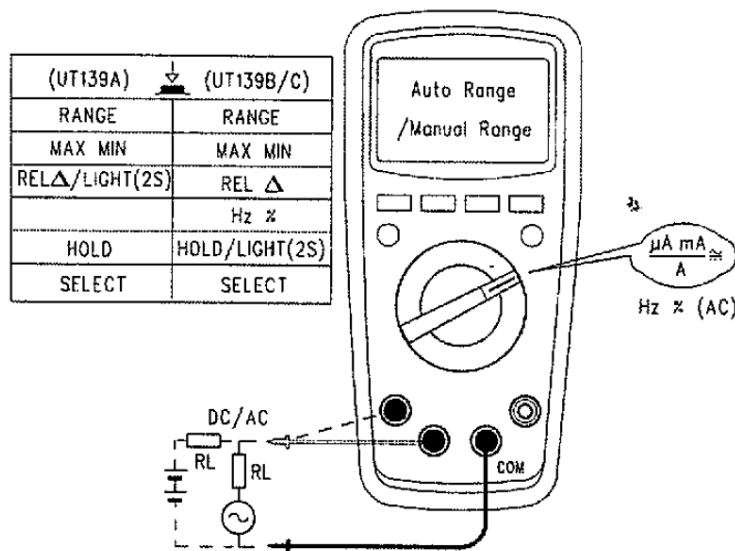

Fig.10
8. MASURARE CURENT ALTERNATIV SAU CONTINUU (AC SAU DC) (fig. 10)